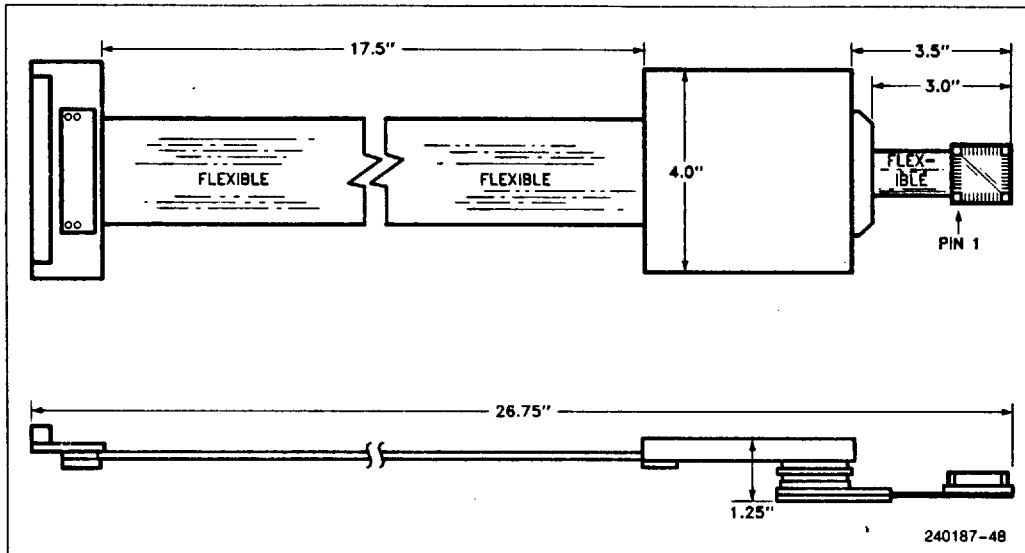
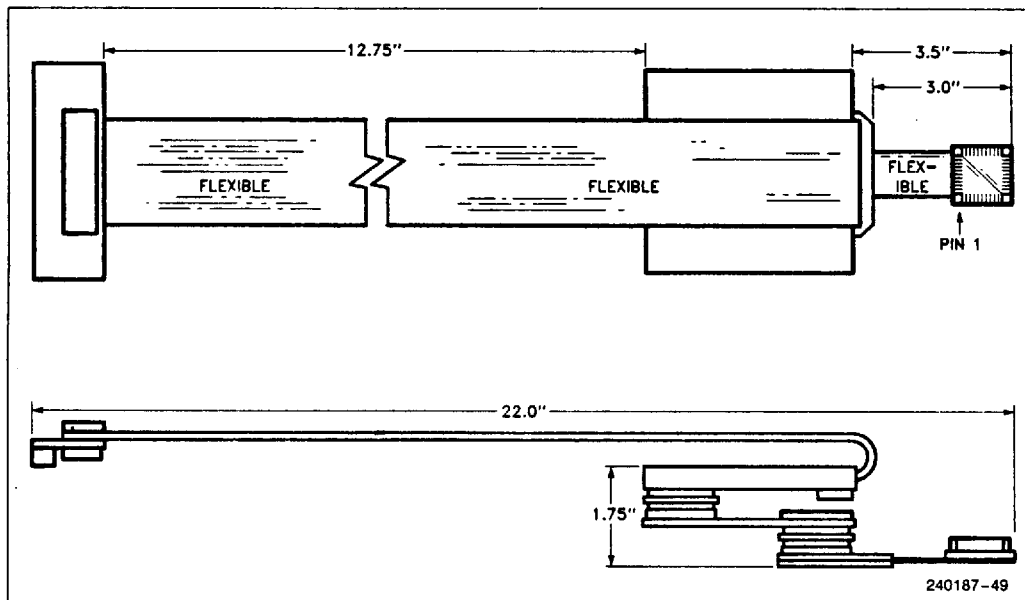

Figure 7.12. Preliminary ICETM-Intel386™ SX Emulator User Cable with PQFP Adapter
Figure 7.13. Preliminary ICETM-Intel386™ SX Emulator User Cable with OIB and PQFP Adapter
**Intel386 SX CPU Location and Orientation:** The ICE-Intel386 SX emulator processor module may require lateral clearance. Figure 7.12 shows the clearance requirements of the IMP adapter. The optional isolation board (OIB), which provides extra electrical buffering and has the same lateral clearance requirements as Figure 7.12, adds an additional 0.5 inches to the vertical clearance requirement. This is illustrated in Figure 7.13.